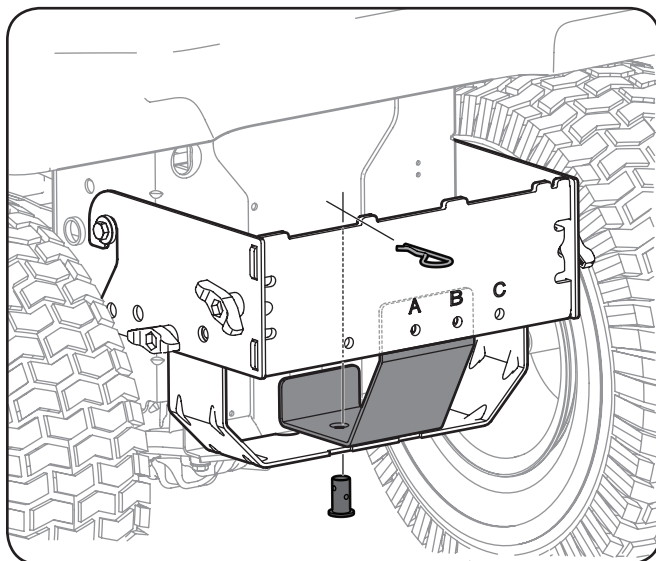

**Figure 4-3**
1. Place the hooked ends of the mounting assembly over the shoulder bolts, as in Figure 4-3, on the tractor and line up the hitch support bracket center hole with the hole on the tractor's hitch.